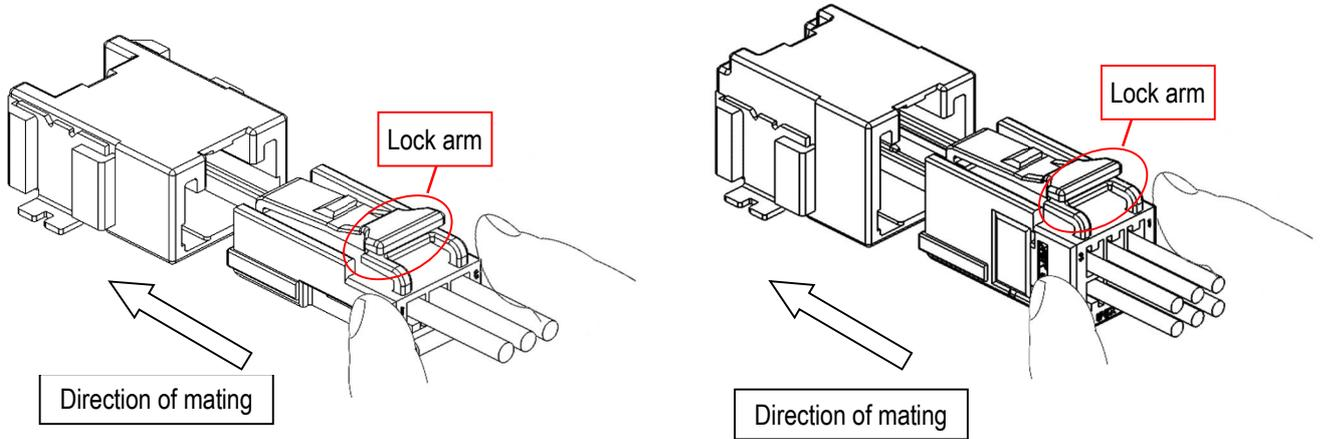

Fig.48. Direction of mating
① Push the female connector that has been installed the secondary lock part and the retainer in the direction of mating until makes an audible click(see Fig.48).